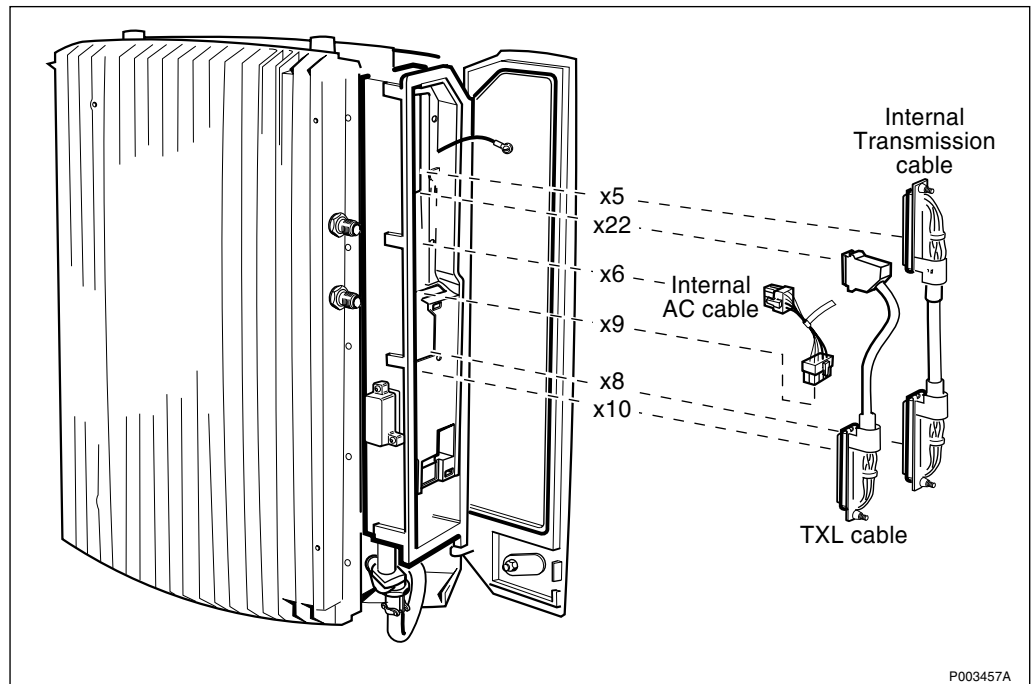
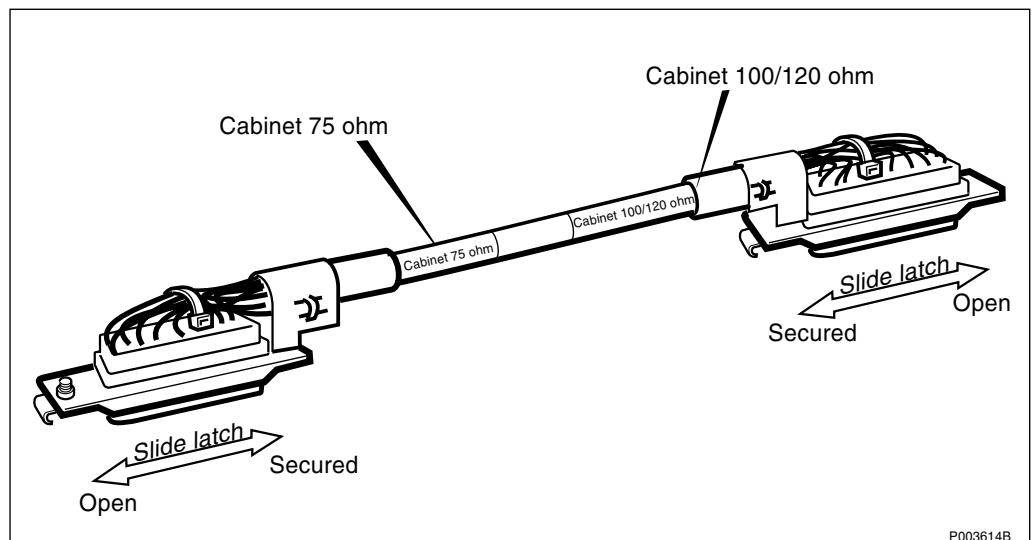

Figure 92 Connecting cables between cabinet and mounting base
Figure 93 Transmission cable
- Connect the transmission cable between the connection board and the cabinet. If a 75 Ω transmission system is used, insert the cable end marked Cabinet 75 ohm into the cabinet. If a 100/120 Ω transmission system is used, insert the cable end marked Cabinet 120 ohm into the cabinet. Secure it with the slide latch. See Figure 92 on page 107 and Figure 93 on page 107.